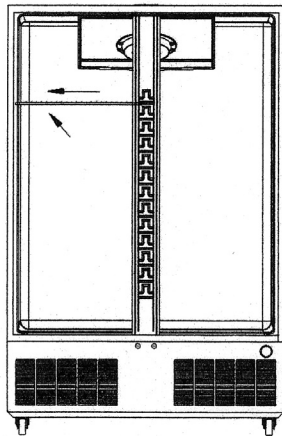
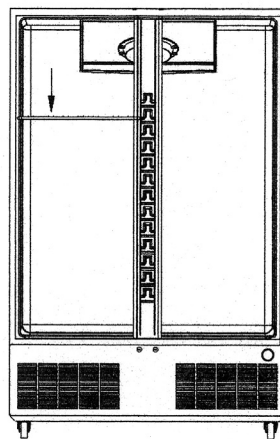

Figure 3
Figure 4
3. Level shelf and slide towards outside wall of unit (figure 3). Shelf can now be lowered on the shelf supports. (figure 4)